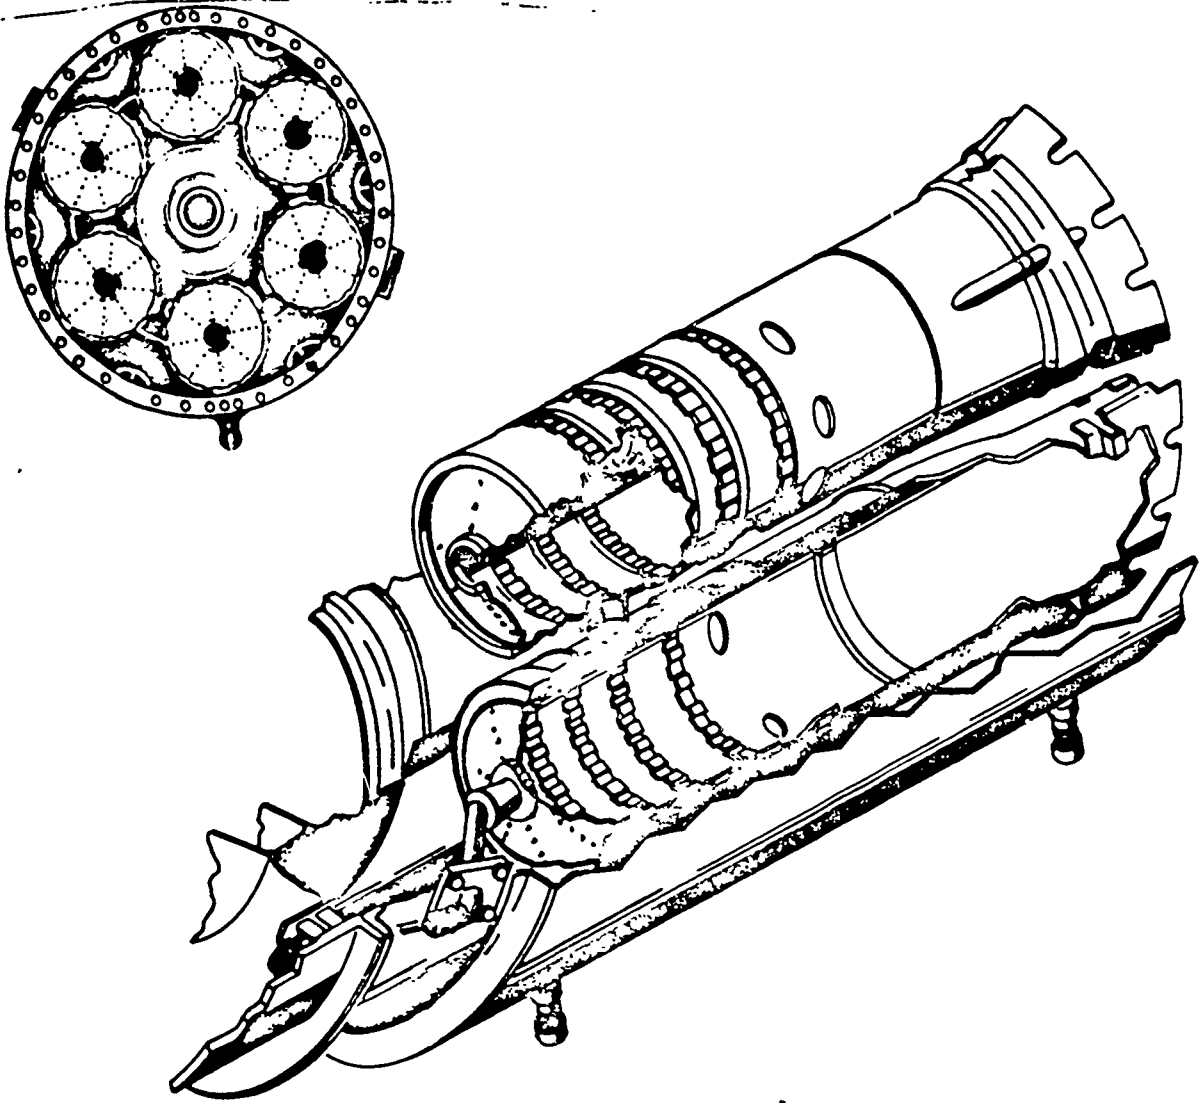
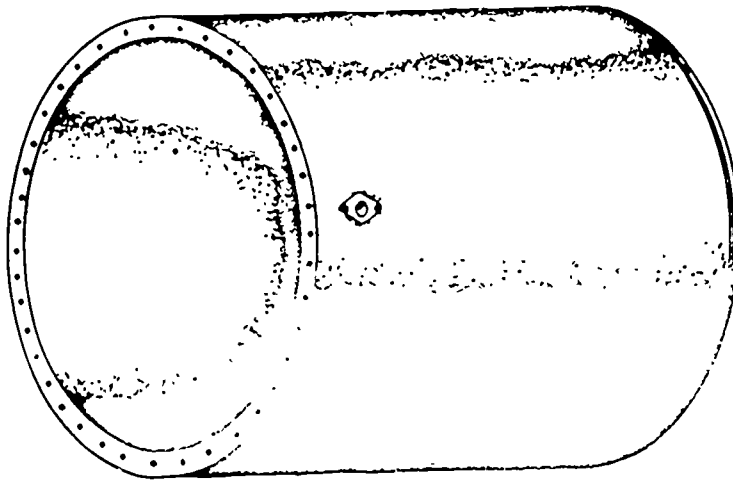

Figure 6. Combustion Chambers.
Figure 7. Outer Combustion Casing.
2. Combustion Section (Figures 6, 7)
(1) The T56 engine has a _____ combustion section.
(2) By canannular, we mean that the _____ (Figure 6) are located between an inner and outer case.
(3) The INNER CASE is called the _____ bearing support.
(4) The OUTER CASE (Figure 7) is called the _____ outer casing.
(5) There are _____ combustion liners numbered clockwise around the engine, starting with number one at the _____ o'clock position.
(6) The combustion _____ are housed in the combustion outer outer _____ casing (Figure 7).